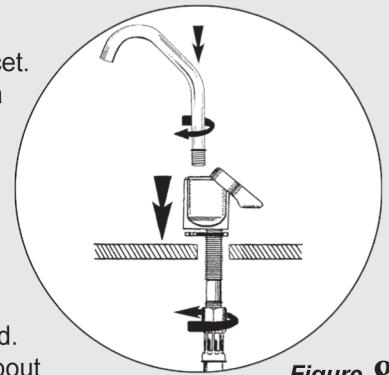

Figure 8
2. **Connect 2nd Hose** directly to Faucet Stem and tighten securely by hand. **Do not overtighten.** Insert and thread Spout into base, **Do not over tighten.** (Fig. 8) Drop free end of Connector Hose through previously prepared hole and position Faucet in hole.